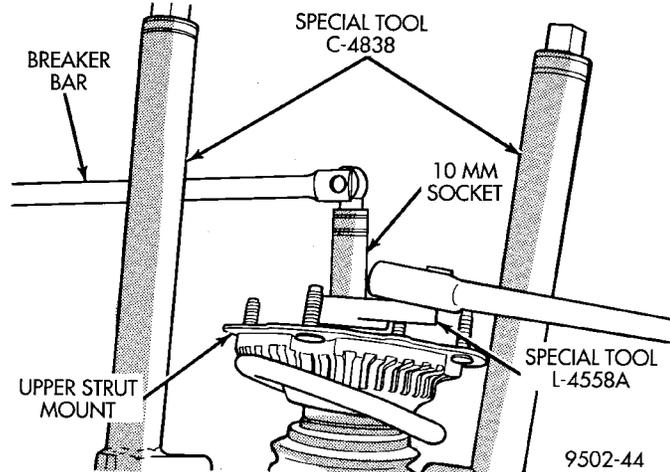
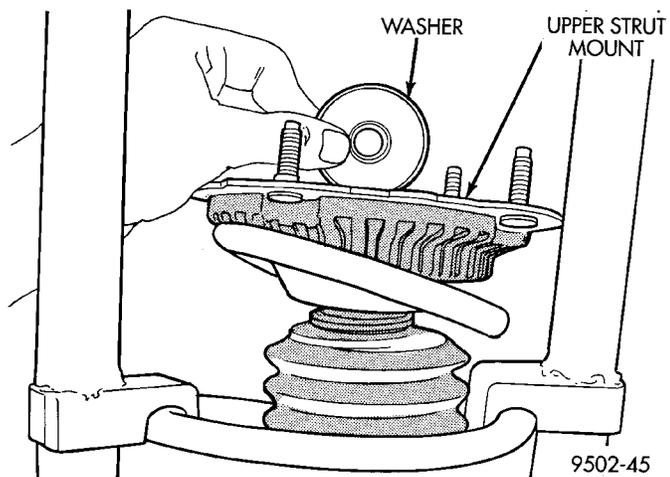

Fig. 27 Removing/Installing Strut Shaft Nut
Fig. 28 Strut Mount Washer
(4) Install Strut Rod Socket, Special Tool, L-4558A or L-4558 on strut shaft nut (Fig. 27). Inserted a 10 mm socket through special tool and onto end of strut shaft (Fig. 27) to keep strut shaft from turning. Remove strut shaft nut from strut shaft.
(5) Remove washer (Fig. 28) between strut shaft nut and upper strut mount and isolator.
- (7) Install the washer on the strut assembly upper mount (Fig. 28). Washer must be installed with the raised edge of the washer facing down.
- (8) Install the upper strut mount to strut shaft retaining nut.
- (9) Using Strut Rod Socket, Special Tool, L-4558A and a 10 mm socket (Fig. 27) to keep strut shaft from turning, torque the strut shaft nut to 61 N-m (45 ft. lbs.).
- (10) Equally loosen the Spring Compressors, Special Tool C-4838 until spring is seated on upper strut mount and all tension is relieved from the spring compressors.
- (11) Install the strut assembly back into the vehicle. Refer to Strut Assembly Removal in Servicing Rear Struts in this section of the service manual.
- (12) Check and reset rear wheel TOE to specifications if required.